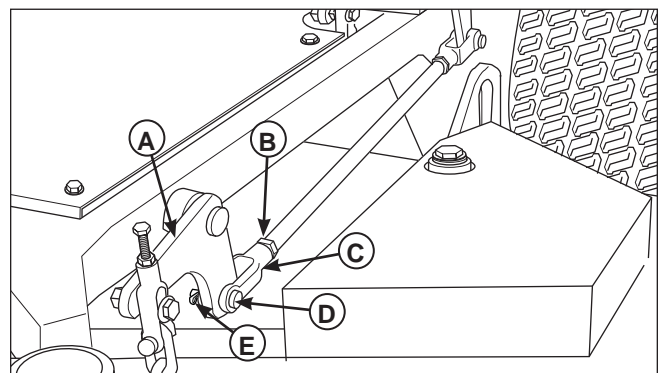

Figure 27. Lift Rod Clevis Adjustment
7. Refer to Figure 27. To adjust the lift rods the 1/2-20 steel clevises (C, Figure 27) will need to be adjusted. Loosen the 1/2-20 jam nut (B) that tightens against the clevis. Remove the cotter pin (E), and the clevis pin (D) that are connected to the front deck lift pivot (A). Turn the clevis to adjust the length of the rod. Reinstall the clevis pin and the hair pin. Tighten the 1/2-20 jam nut. Measure and record the distance between the lift pivots and the rod pivots. Repeat the process until the measurements are equal.